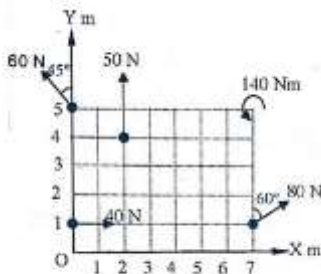

Figure 1
- Q.2 (a) Determine magnitude, direction & perpendicular distance from 'O' of the resultant for the force system as shown in Figure 1. [06]